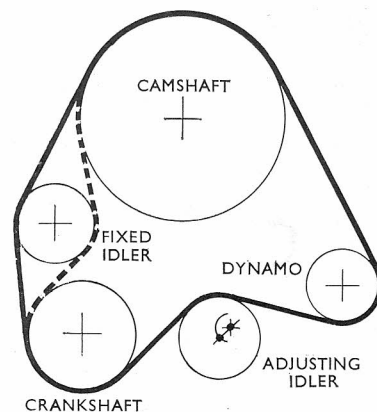

Fig. 42.
64. CHAIN DRIVE ARRANGEMENT. Generator sprockets of 15, 18 and 20 teeth are available to provide alternative gear ratios for generator or alternator drives and the run of the timing chain round the fixed idler sprocket differed on earlier engines according to the size of generator sprocket and length of chain employed, see Fig. 42. Engines up to No. 135274 were fitted with an adjusting idler having a $\frac{1}{2}$ in. (12.7 mm.) throw on its eccentric. With these engines therefore it is wise before removal to observe on which side of the fixed idler sprocket the chain is fitted, so that it may be re-assembled in the same position and thus ensure that full range of adjustment is preserved on the adjusting idler.